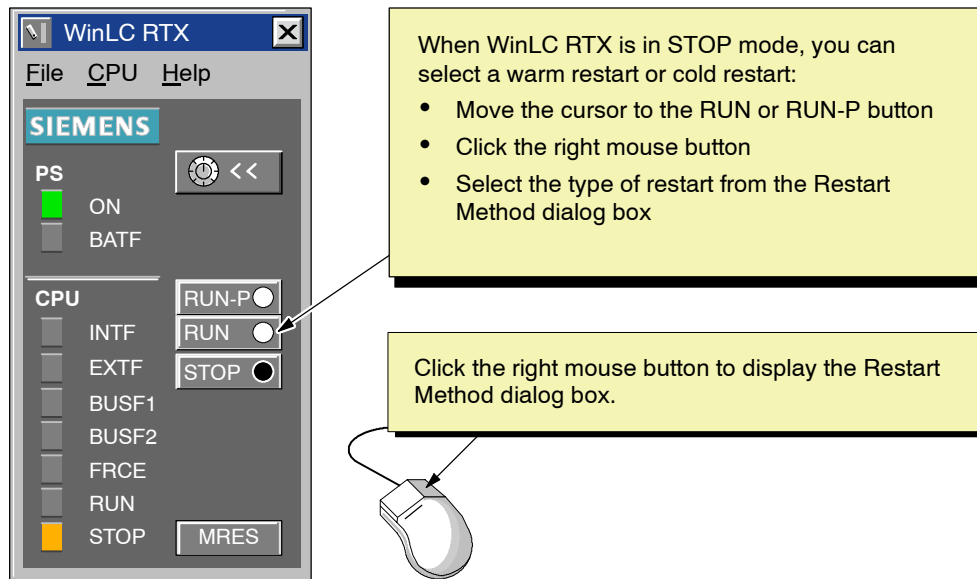

Figure 4-9 Using the Right Mouse Button to Select the Restart Method
- As shown in Figure 4-9, click on the RUN or RUN-P buttons to display the Restart Method dialog box that allows you to select a cold restart or a warm restart.